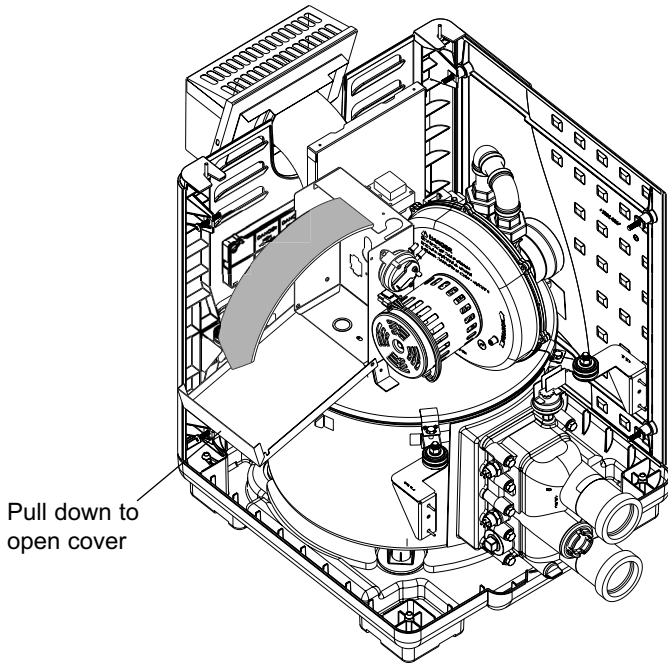

FIGURE 22: Open Control Box Cover
3. Open control box cover (see Figure 22).